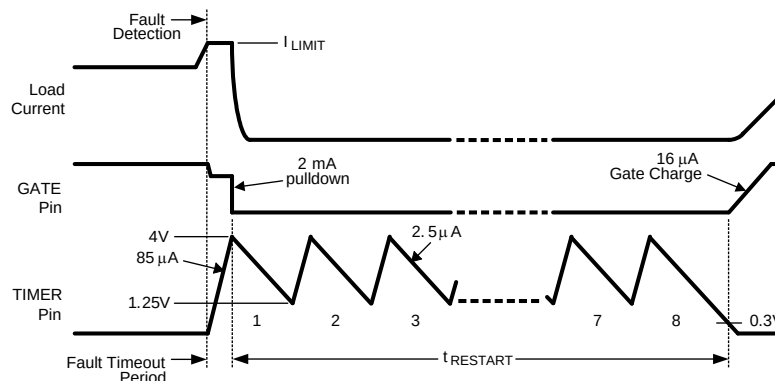

Figure 27. Restart Sequence (LM5069-2)
When the current limit or power limit threshold is reached during turn-on or as a result of a fault condition, the gate-to-source voltage of Q1 is modulated to regulate the load current and power dissipation. When either limiting function is activated, an 85 μA fault timer current source charges the external capacitor (C_T) at the TIMER pin as shown in Figure 27 (Fault Timeout Period). If the fault condition subsides during the Fault Timeout Period before the TIMER pin reaches 4.0V, the LM5069 returns to the normal operating mode and C_T is discharged by the 2.5 μA current sink. If the TIMER pin reaches 4.0V during the Fault Timeout Period, Q1 is switched off by a 2 mA pull-down current at the GATE pin. The subsequent restart procedure then depends on which version of the LM5069 is in use.
The LM5069-2 provides an automatic restart sequence which consists of the TIMER pin cycling between 4.0V and 1.25V seven times after the Fault Timeout Period, as shown in Figure 27. The period of each cycle is determined by the 85 μA charging current, and the 2.5 μA discharge current, and the value of the capacitor C_T . When the TIMER pin reaches 0.3V during the eighth high-to-low ramp, the 16 μA current source at the GATE pin turns on Q1. If the fault condition is still present, the Fault Timeout Period and the restart cycle repeat.
C) Restart Timing For the LM5069-2, after the Fault Timeout Period described above, C_T is discharged by the $2.5\text{ }\mu\text{A}$ current sink to 1.25V. The TIMER pin then cycles through seven additional charge/discharge cycles between 1.25V and 4.0V as shown in Figure 27. The restart time ends when the TIMER pin voltage reaches 0.3V during the final high-to-low ramp. The restart time, after the Fault Timeout Period, is equal to: